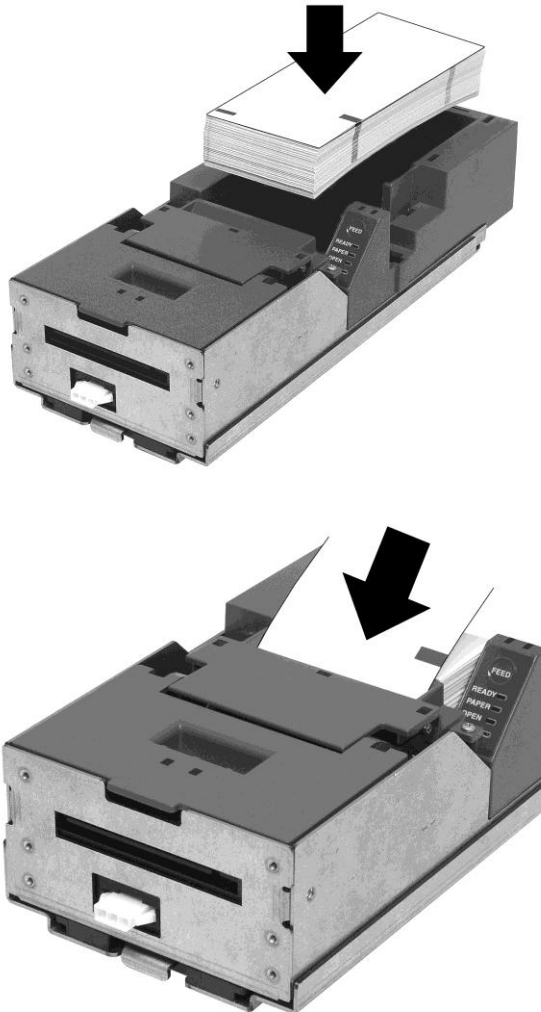

Figure 18. Ticket Loading and Ticket Feed Mechanism
- Load tickets into the ticket supply tray, making sure that the Black Dot is positioned as shown in Figure 18.